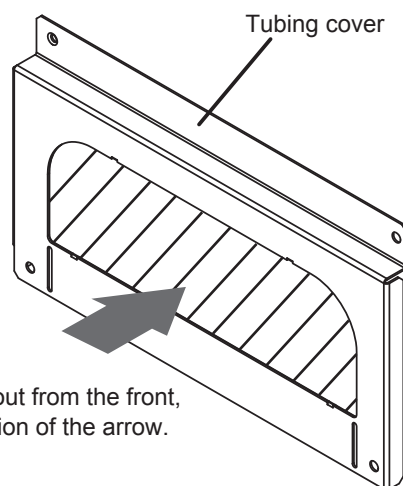

Fig. 2-4-23a
- (1) If the tubing is routed out from the front, punch out the slit part (). (Fig. 2-4-23a)